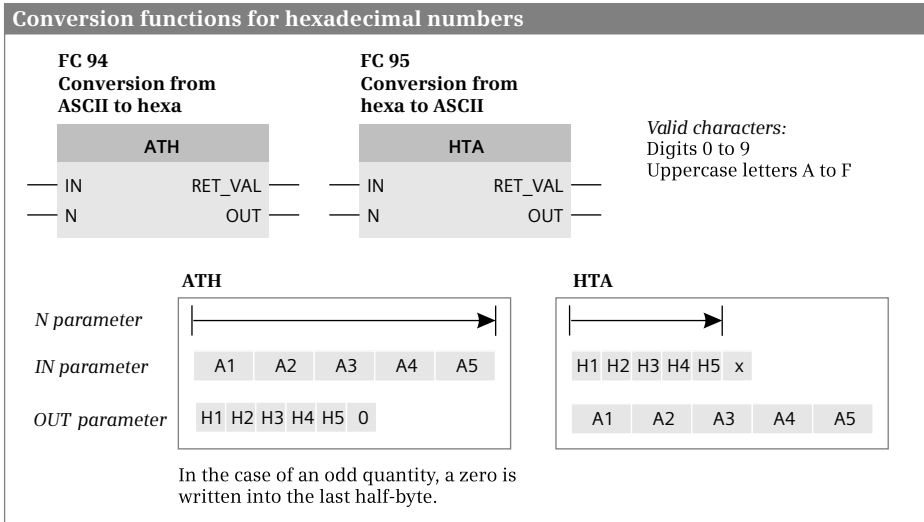

Fig. 13.15 Graphic representation of the ATH and HTA conversion functions
The ATH function converts a string of ASCII-coded characters into a string of hexadecimal numbers. The HTA function converts a string of hexadecimal numbers into a string of ASCII-coded characters. The conversion functions are loadable standard functions (FC). They are represented as EN/ENO boxes in the case of LAD and FBD and as block calls with the conversion result as the function value in the case of STL and SCL. The graphic representation of the conversion functions is shown in Fig. 13.15.